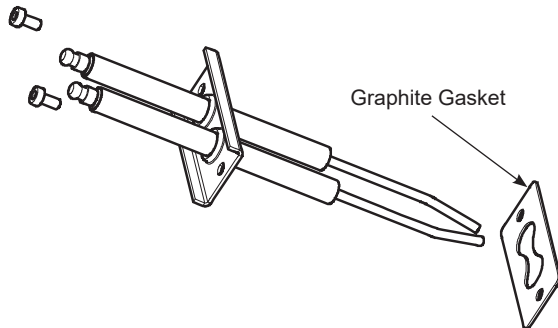

Figure 34: Igniter Electrode Assembly
- Install igniter as shown in Figure 34.